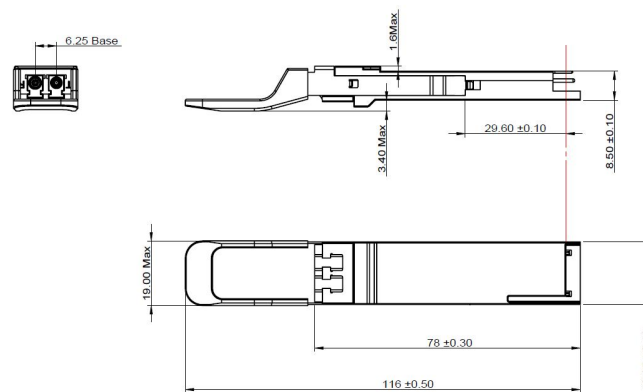

Figure 4 Mechanical Outline
- [6] Receiver sensitivity ( $OMA_{outer}$ ) (max) is informative and is defined for a transmitter with a value of SECQ up to 3.4 dB. It should meet Equation (1), which is illustrated in Figure 4.